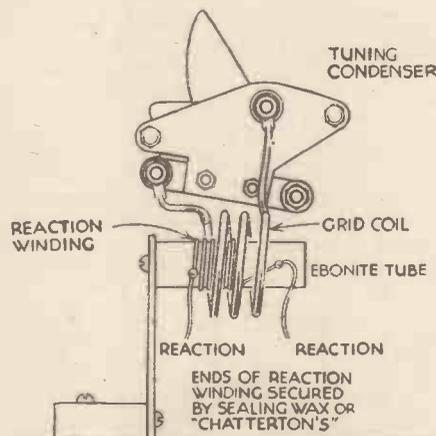

Fig. 2.—A convenient method of mounting short-wave coils and tuning condenser.
The extended use of five metres as a broadcasting band should reveal a further revival in home-construction as a hobby; not only construction of sets but of components, most of which, for this band, are particularly simple. Coils, for instance, are easily made. Three turns of No. 18 tinned copper wire wound on a 1in. diameter former, with a space of about 1/4in. between adjacent turns, when removed will prove an excellent self-supporting air-spaced coil, which may be mounted directly on the end of the variable condenser. Reaction may be obtained by a similarly mounted coil or by a few turns of wire on a piece of 1/2in. diameter ebonite rod, so mounted as to slip inside the larger coil (Fig. 2). Incidentally, aerial coupling in a 5-metre receiver need
F. (Glasgow). You have apparently confused the diagram Fig. 2 with the theoretical circuit. The former is only an illustration of the layout of the detector stage, and thus the first apparent valve-holder is the coil-holder. The coil, of course, is fitted with four pins arranged in the manner of a valve. A small power or a pentode valve could be used in the output stage. You will probably find that a short wire, about 15 to 20ft. long and arranged as nearly vertical as possible will give you the best results. This reply was sent to you but returned marked "Gone Away."
SIR,—Looking through the current issue of your paper, I see on page 410 "An ultra slow-motion device." Whilst I appreciate the writer's idea, I should like to suggest that with the data given it is not wholly possible to carry out. For instance, if the second slow-motion dial shown in the sketch (Fig. 2) were to be used as the auxiliary dial, one could not use it in conjunction with the main one to give very accurate calibration, as was intended, because these types of condenser dials are arranged so that when the figures 100 or 180 as the case may be reach the hair line they stop. However, the main dial will still go on revolving, so that the two dials will lose synchronisation. Also, on the auxiliary dial, a half of it will be of no use as it is not calibrated. With the idea I submitted, however, I was most careful to avoid pitfalls like this by using one of the older, raised type condenser dials as the auxiliary dial, and having one calibrated all the way round, or, if one of these was impossible to obtain, two "reading off" spots should be used. I think on the whole it would be better for your readers to use my method in preference to the other one, for the above reasons.